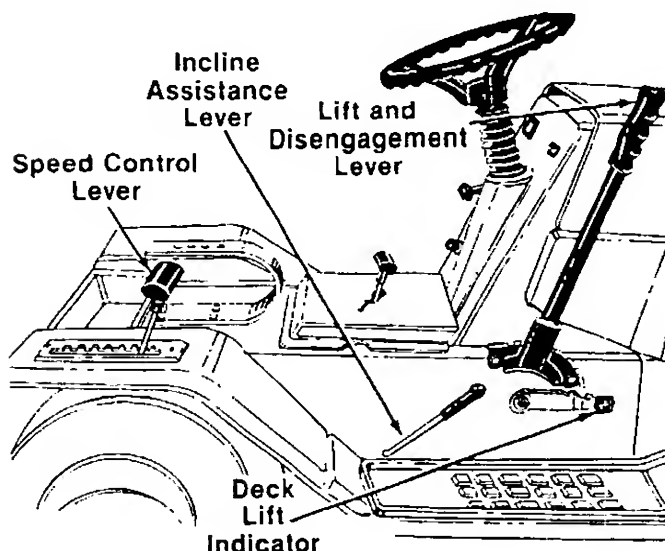

FIGURE 17.
The speed control lever allows you to regulate the ground speed of the lawn tractor. See figure 17. To select the ground speed, depress clutch pedal. Push speed control lever outward and move backward to slow lawn tractor, move forward to increase speed. When desired speed has been obtained, release lever in that position. Whenever clutch is engaged, unit will automatically go to the pre-set speed.
When stopping on a hill, hold the incline assistance brake lever back while you release the clutch-brake pedal until the lawn tractor begins to move, then release the lever. This lever permits smoother starts and clutch engagement by holding the tractor during the brake release/clutch engagement operation. See figure 17.
The lift and disengagement lever is used to raise and lower the cutting deck. Pulling it all the way back and locking it disengages the blades. The lift and disengagement lever **must** be in the disengaged position when starting the engine and when shifting into reverse. See figure 17.
The deck lift indicator marks the position being used for the lift lever. Select the lift lever position desired, press the indicator lever outward, move it to the position immediately below the lift lever and release the indicator lever. See figure 17.
3. Place the lift and disengagement lever in the DISENGAGED position. See figure 17.